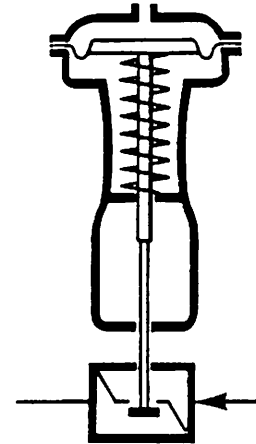

Figure 28. Valve with Air-to-Lower Actuator Showing Air-to-Open (ATO) Action
4.7.2 Air-to-Lower Actuator with Push-to-Open Valve (ATO), Figure 28